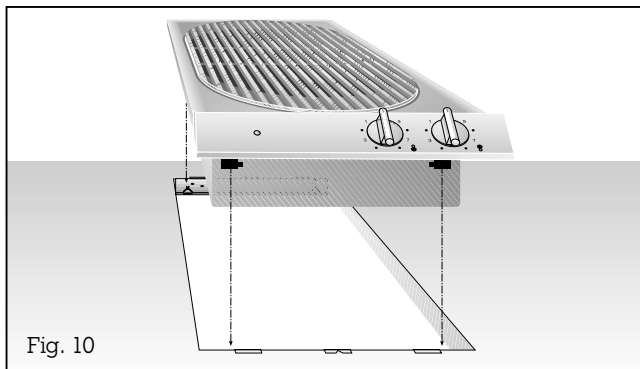

Fig. 10
- **Lower the appliance into the worktop.** Make sure that the engaging lugs on the appliance lie exactly on the clamping springs. Press the appliance firmly into the worktop. The engaging lugs on the appliance “snap” into the clamping springs in the securing rails (Fig. 10).